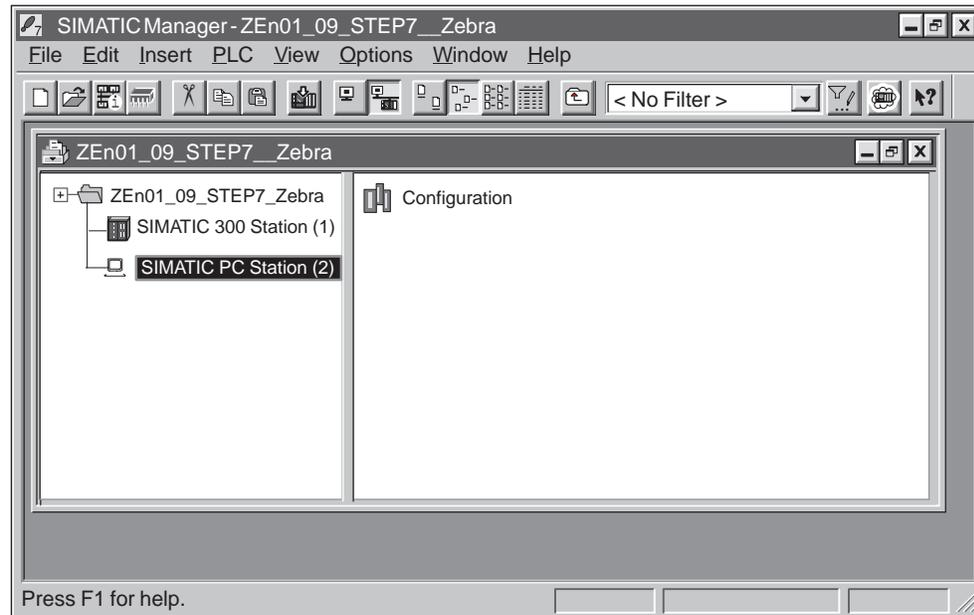

Figure 4-5 Configuring the PC Station in the Sample Project
2. Double-click on the Hardware object to open the configuration tool of the STEP 7 software (Figure 4-5).